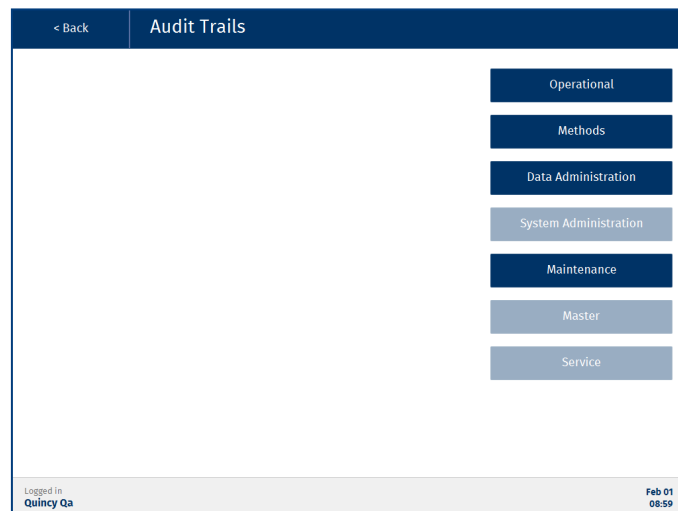
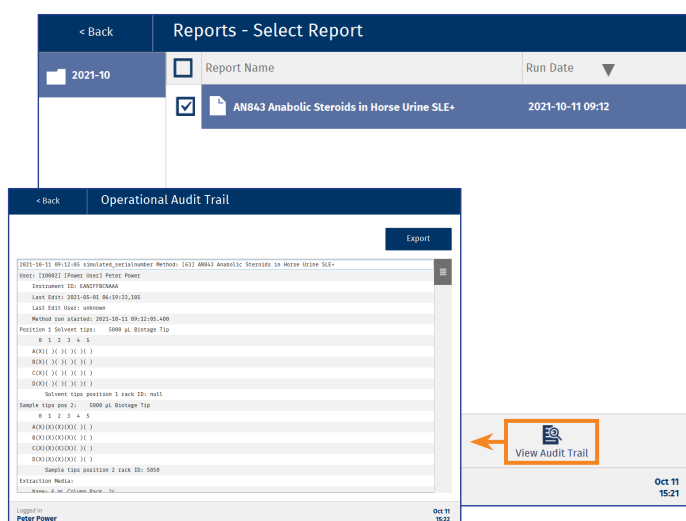

Figure 44. The Audit Trails view when logged in as a QA/QC user. For user access rights, see Table 1 on page 6.
Figure 45. There is one operational audit trail for each run.
The audit trails can be accessed from the **Audit Trails** view (see Figure 44). For user access rights, see Table 1 on page 6.
All audit trails can be accessed from the **Audit Trails** view (see Figure 44). The audit trails, except for the master, can also be accessed by pressing  in the lower right corner in the corresponding view (see Figure 45).
2. Open the audit trail and press **Export** (see Figure 45).